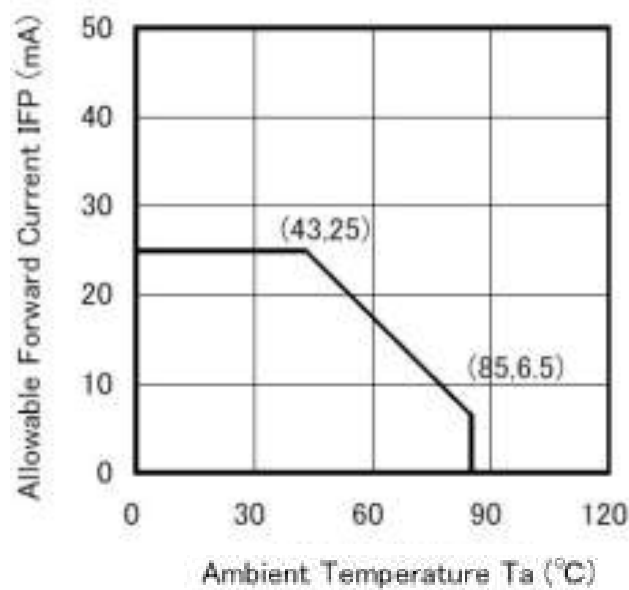

Fig 2.1 Ambient Temperature vs. Allowable Forward Current
2. Allowable forward current is refer to Fig 2.1